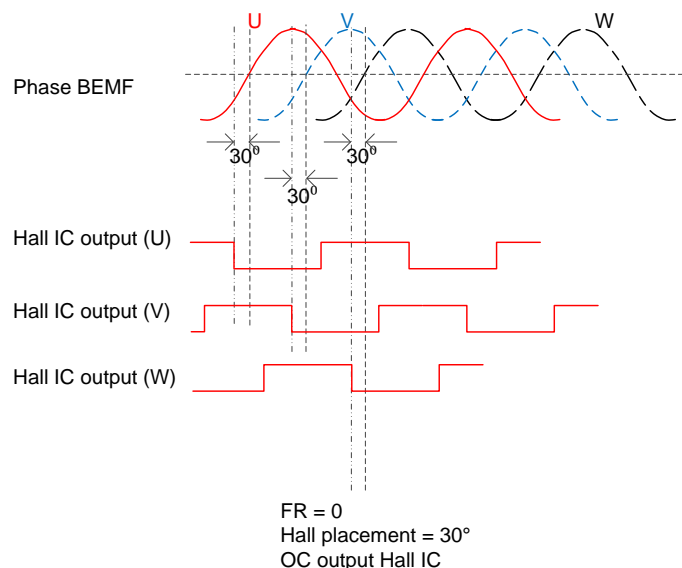

图 29. Correspondence Between Motor BEMF and Hall Signal (FR = 0, 30° Placement, Hall IC)
4. Phase U is leading phase V by 120°, phase V is leading phase W by 120°. The Hall signal positive output is 30° leading of respective phase BEMF. Choose FR = 0 and 30° placement option (see 表 2 and 图 29).